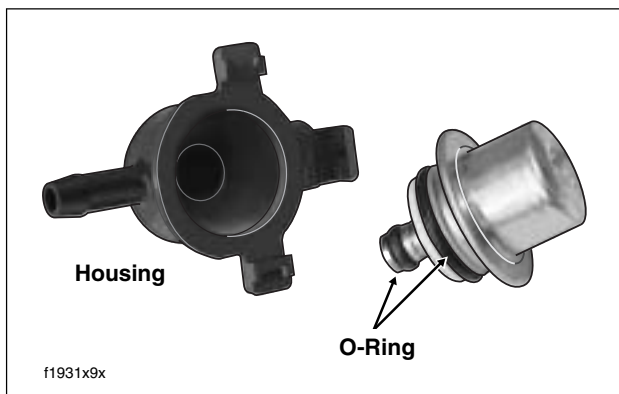

Figure 9-19. Fuel Pressure Regulator Assembly
4. Remove fuel pressure regulator from housing. To overcome the resistance of two O-rings, insert blade of small screwdriver into gap between regulator and housing and gently pry regulator out. See Figure 9-19.
1. Apply a thin coat of clean engine oil to **new** O-rings. Install O-rings in grooves of fuel pressure regulator. See Figure 9-19.